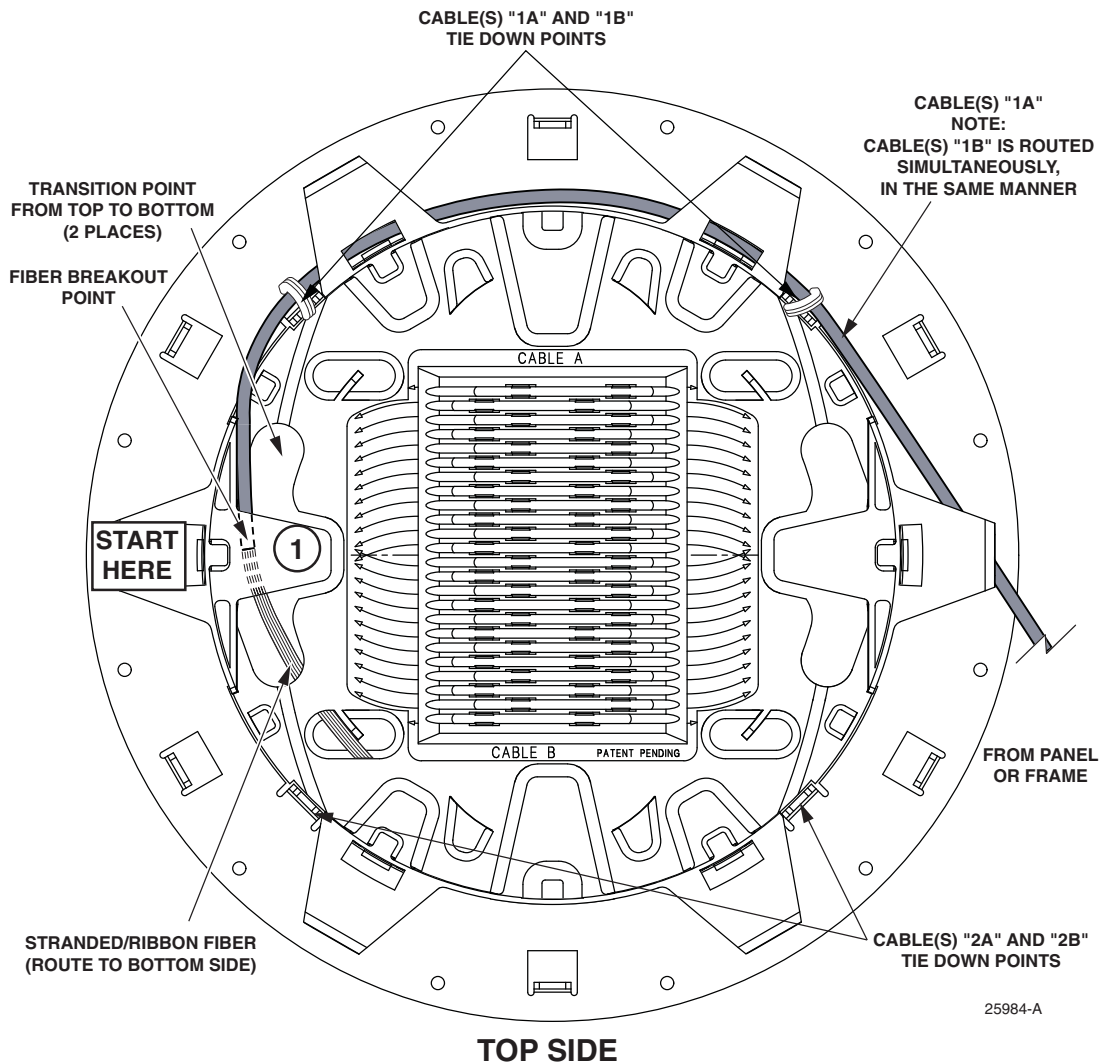

Figure 17. Cable(s) "1A" Routing, Top Side (Counter-Clockwise Roll-Up Procedure)
1. Route the cable so the fiber breakout is positioned at the transition point from top to bottom (refer to the "circled 1" in Figure 17). Then route and tie down cable(s) "1A" as shown in Figure 17. (Cable(s) "1B", not shown, is routed simultaneously in the same manner.)